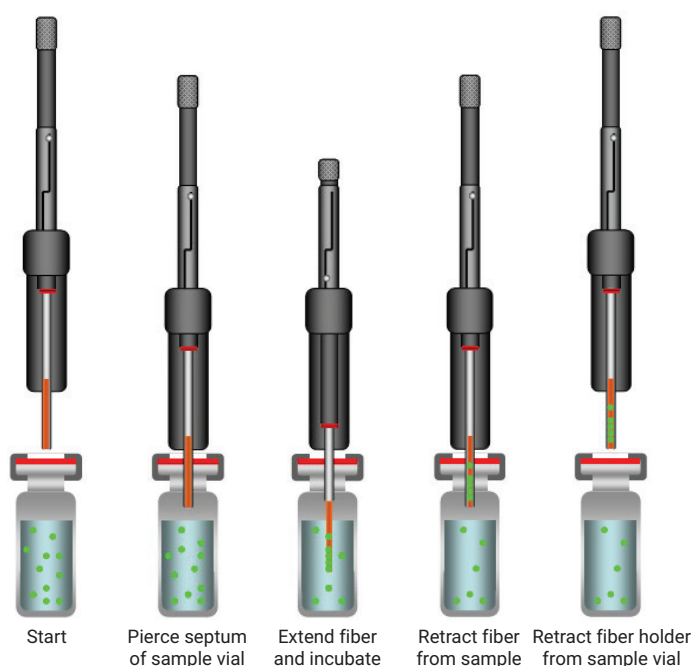

Figure 1. SPME process - direct immersion (DI) example shown.
1. Partitioning of analytes between the coating and the sample (Figure 1)